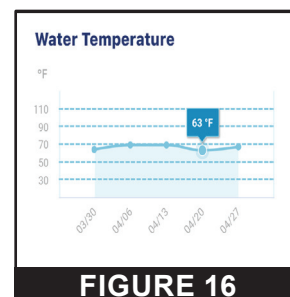

FIGURE 16
- **Water Temperature (Figure 16):** Previous water temperature readings can be viewed on an hourly, daily, weekly or monthly graph.